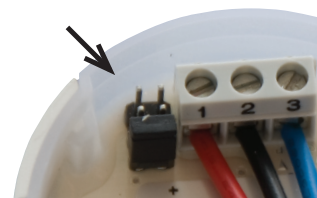

Fig. 11c
- c. To set at 60-6000 FC insert black pin cap over bottom two pins, placed horizontally as shown (See Figure 11c)